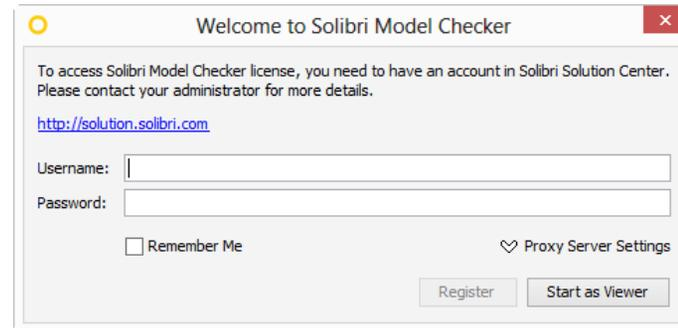

Figure 2 Registration window
- 2) 'Welcome to Solibri Model Checker' window opens → Insert your Username and password and click Register (see Figure 2)